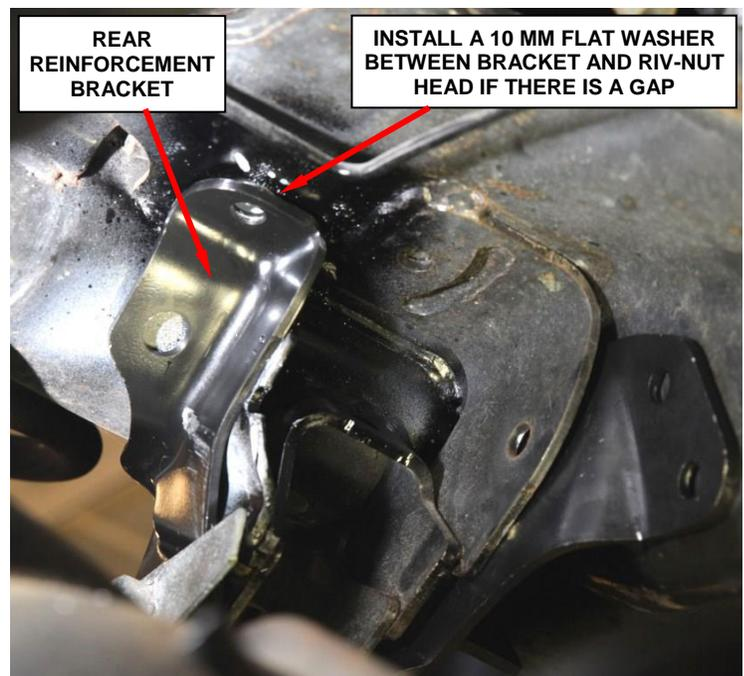

Figure 17 – 10mm Flat Washer
24. Rotate the rear reinforcement bracket up into position, until it makes contact with the newly installed riv-nut (Figure 17).
25. If a gap occurs between the rear reinforcement bracket and the riv nut head then install the M10 flat washer between the reinforcement bracket and the riv-nut head (Figure 17).